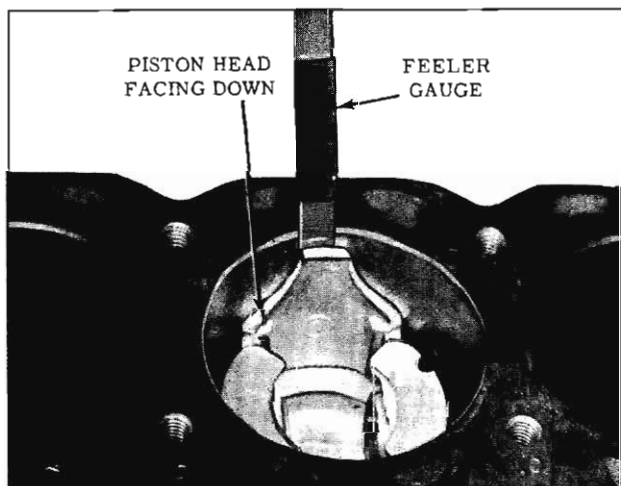

Fig. 3-129 Checking Piston Clearance
1. Place a strip of .0015" feeler gauge against the upper side of the bore, at 90° to the normal piston pin location. Attach scale J-5515 to feeler gauge. (Fig. 3-129)